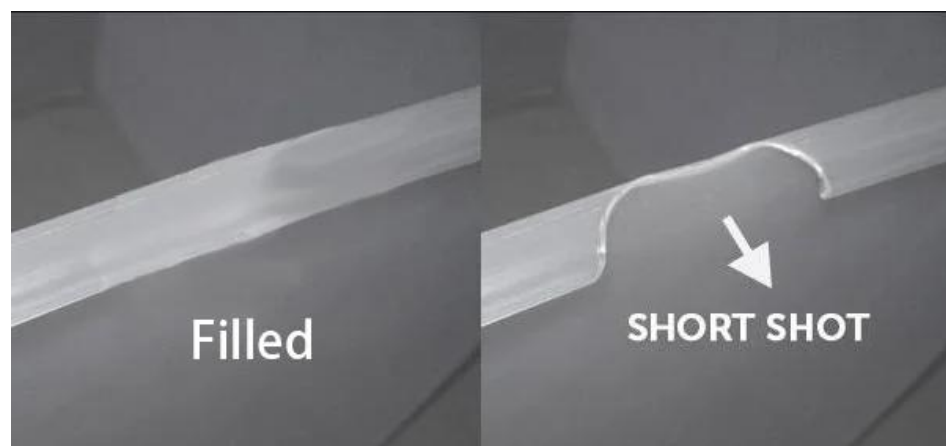

Figure 3c(ii): Product defect / *Rajah 3c(ii): Kecacatan produk*
- ii. Figure 3c(ii) shows a defect of short shot during the production of product using injection moulding process. Provide **FOUR (4)** possible causes and troubleshooting to resolve this issue.